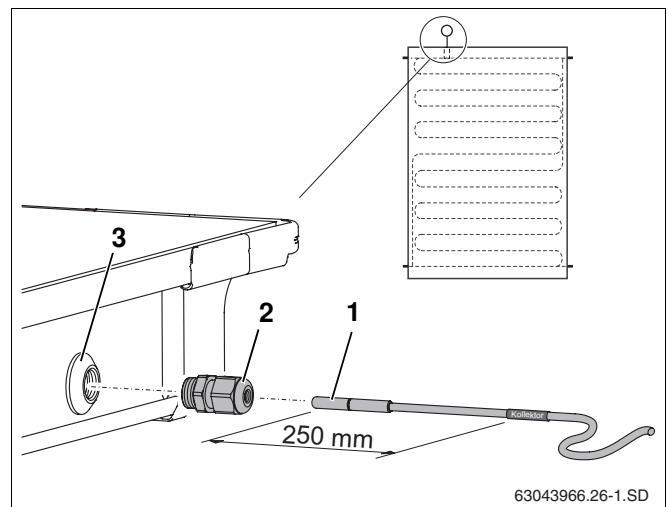

Fig. 31 Inserting the collector sensor into the collector
For perfect functioning of the solar thermal system, the collector sensor (Fig. 31, **Item 1**) needs to be inserted into the sensor guide tube as far as it will go (approx. 250 mm).
- Using the collector sensor or screwdriver, push through the sealing membrane on the sensor bush (Fig. 31, **Item 3**).
- Screw compression fitting (Fig. 31, **Item 2**) into sensor bush.
- Tighten compression fitting (Fig. 31, **Item 2**), counterhold if necessary.
If you accidentally push through the sensor bush (Fig. 31, **Item 3**) on the wrong collector, it can be resealed using the plug from the connection kit. You must first remove the nut in the sensor bush using the cable gland (Fig. 31, **Item 2**).